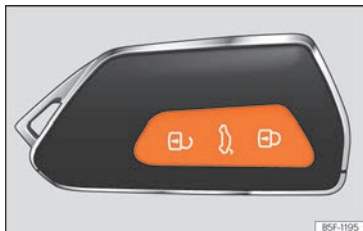

Fig. 74 Remote control key: buttons.
- Lock: press the  button » **Fig. 74.**